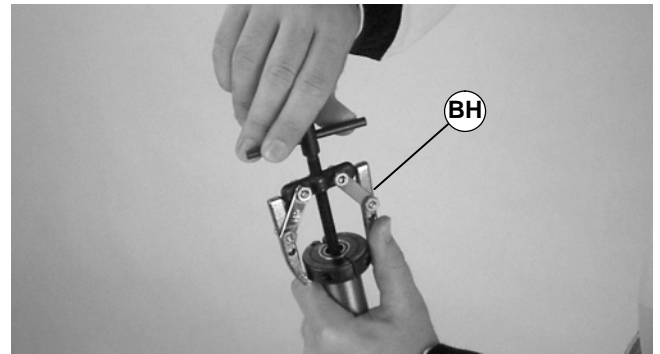

Figure 41
3. Using a puller (BH of Figure 41), remove and discard bearing(s).